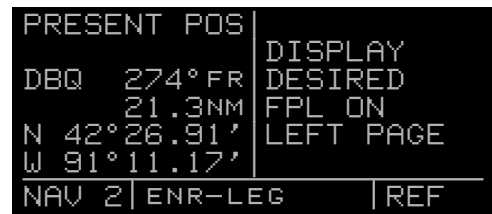

Figure 5-86
1. Select the Reference Waypoint (REF) page on the right side. If a flight plan page is not displayed on the left side, the REF page looks like the one in figure 5-86. A similar REF page is shown when a locked flight plan which can't be edited, is displayed on the left side.